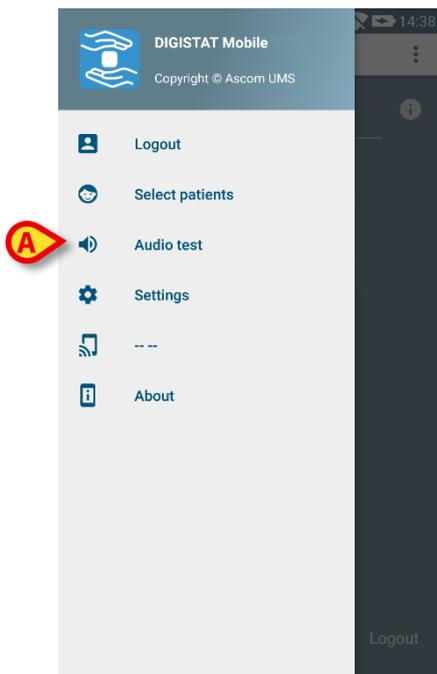

Fig 147
The following menu will be displayed (Fig 147).
- Touch the **Audio test** option (Fig 147 **A**).